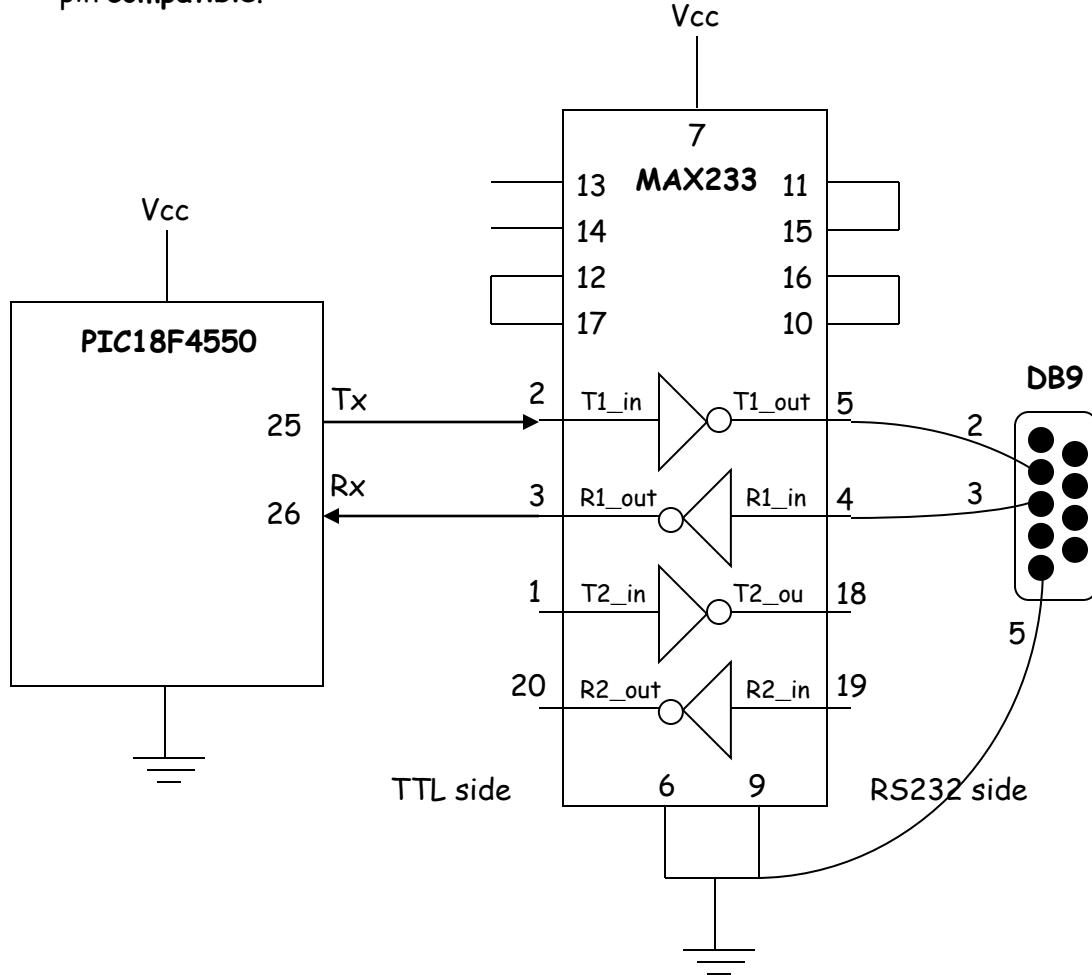

Figure 8.8 - Connecting PIC18F4550 to MAX233 and then to DB9
- You can check whether your PIC-based system can send or receive data through its serial port by connecting it (see Figure 8.8 / 8.6) to the COM port of an IBM PC/compatible and running the Hyper-Terminal software on the PC.